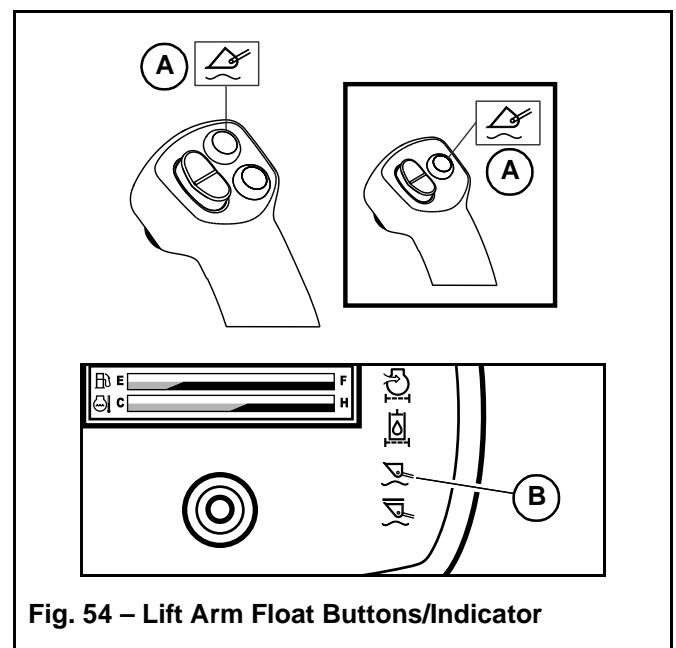

Fig. 54 – Lift Arm Float Buttons/Indicator
2. Press button (A, Fig. 54) on the right joystick to activate float:
- a. Press button (A, Fig. 54) momentarily to apply float momentarily.
- b. Press and hold button (A, Fig. 54) on the right joystick for 5 seconds to activate continuous float.